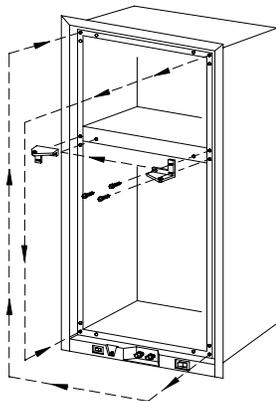

Figure 15
- Remove the middle hinge bracket by using the #2 Phillips screwdriver and taking out the three screws holding it in place. Next, remove the three screws on the opposite side corresponding to the center hinge location. Relocate them in the holes just exposed by the removal of the hinge bracket. Attach the hinge bracket to the refrigerator on the opposite side. Do not tighten screws completely. (See Figure 15)